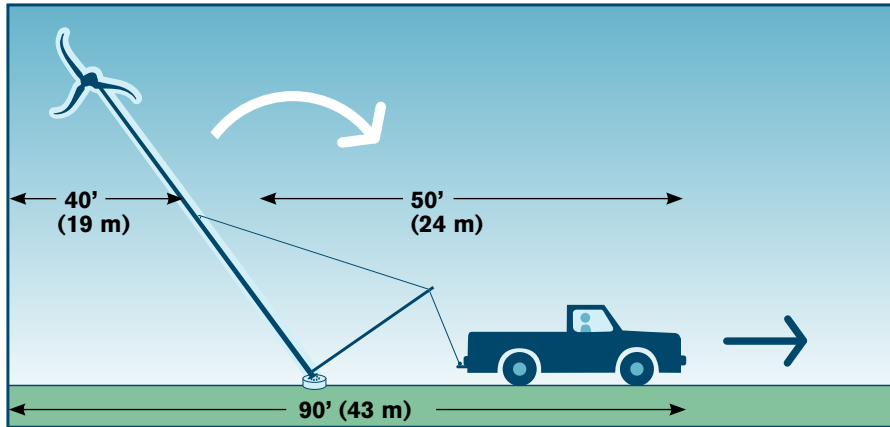

Fig. 1C
**TIP:** Approximately 90 feet (43 meters) are required to raise the tower vertically into position. Forty feet (19 meters) are required on one side of the foundation for the tower and wind generator. An additional 50 feet (24 meters) are required on the other side of the foundation for the gin pole and pulling vehicle. See **Fig. 1C**.